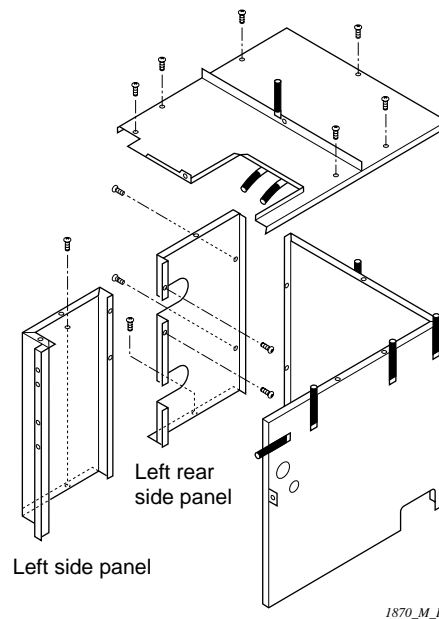

Fig. 3
(3) Replacing the scroll (SC) compressor (PC unit) (Ref. Fig. 3, 4)